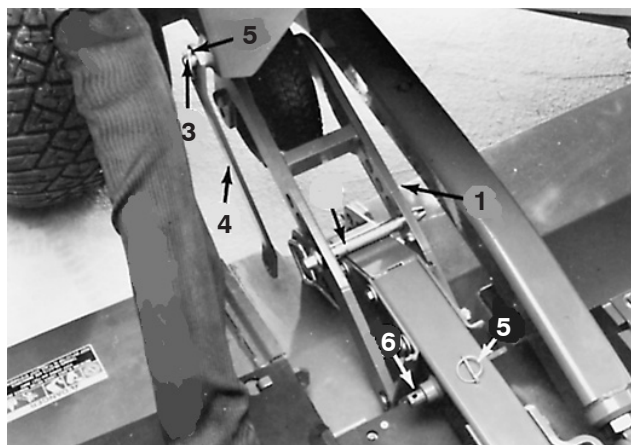

Figure 62
5. Fit deck tilt link over weldment on the right side of traction unit and secure with klik pin. Position link so it clears when cutting unit is raised. Keep remaining klik pin handy to secure opposite end of link to cutting unit arm weldment (Fig. 62).